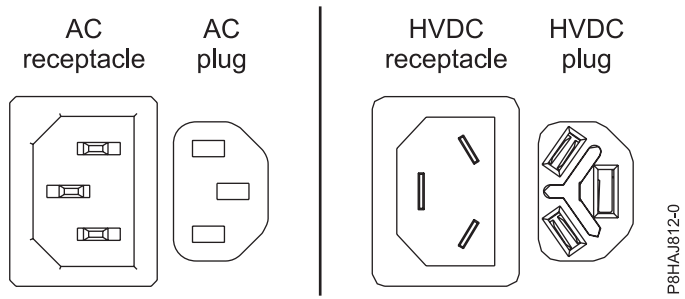
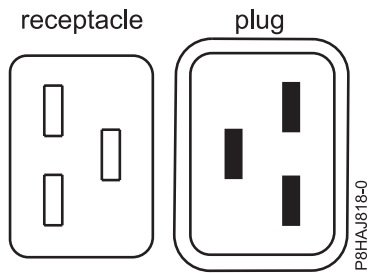
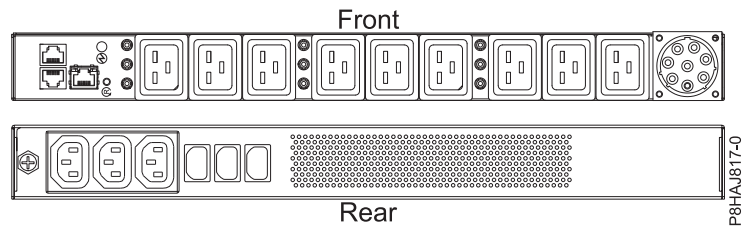

Figure 74. AC and HVDC connectors
Figure 75. Connectors for the 8408-44E system
Figure 76. PDU for the 8408-44E system
Figure 74 on page 99 shows the supported alternate current (AC) and high voltage direct current (HVDC) connectors. Figure 75 on page 99 and Figure 76 on page 99 show the supported connectors and power distribution unit (PDU) for 8408-44E.